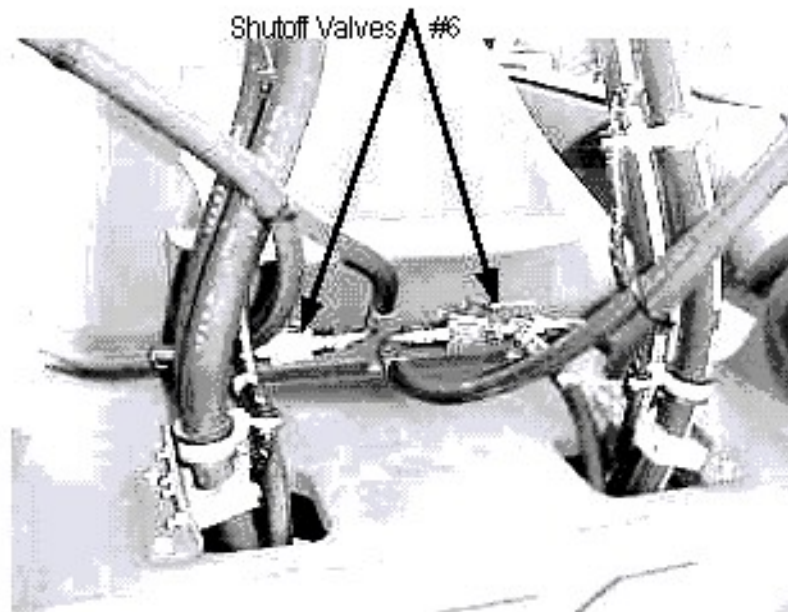

Figure 3-196
p. At front of vehicle, open both #6 shutoff valves slowly and at the same time the tophandler should now be resting on dolly wheels in floating position (see Figure 3-196).